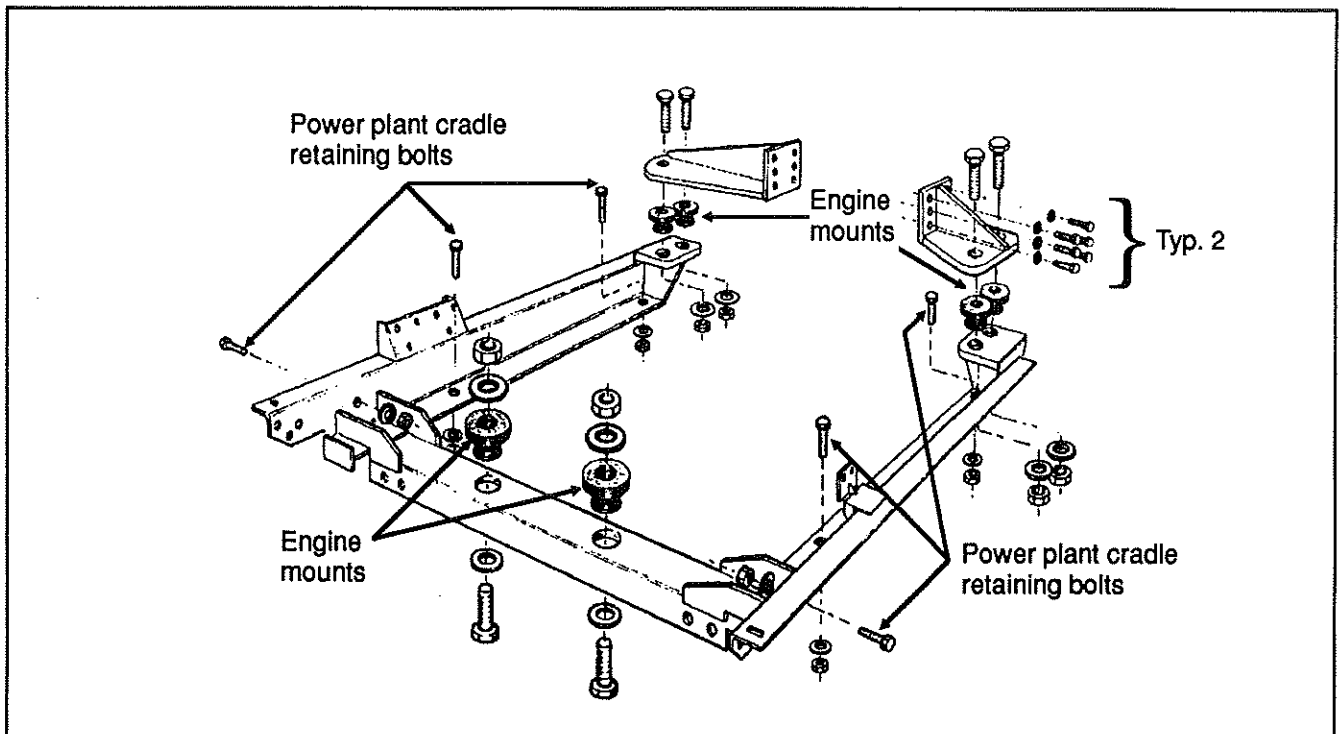

Fig. 16 - Power plant cradle (8V engine model)
35. Remove the 6 retaining bolts, washers and nuts securing the power plant cradle to the vehicle rear sub-frame as detailed in figure 16.